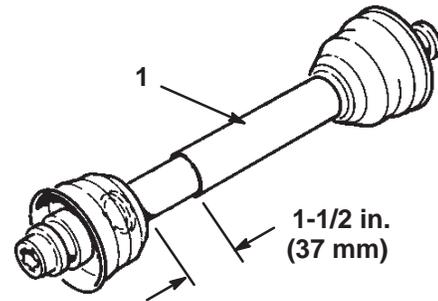

Figure 4
4. At it's shortest length, the two halves of the PTO shaft must have at least 1-1/2 inches (37 mm) of additional clearance to collapse (Fig. 4). If the dimension in step 2 is not at least 1-1/2 inches (37 mm) greater than the dimension in step 3, the PTO shaft is too long; proceed to step 5. If there is enough clearance to allow the PTO shaft to collapse, proceed to step 10.